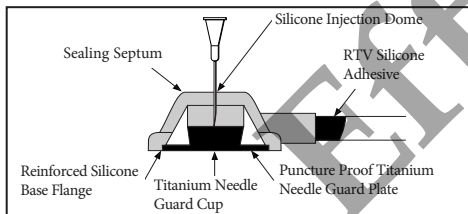

FIGURE 4
- b) Penetrate the injection site until the needle is stopped by the needle guard, as shown in Figure 4.